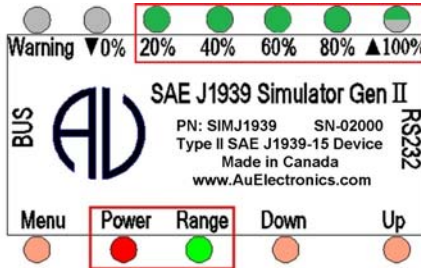

Figure 3-7 Power, Range, 20%, 40%, 60%, 80% are constant on, “▲100%” LED blinks, indicating data reaches 100%
- When control step value equals to 100%, 20%, 40%, 60%, and 80% LED will be constant on. ▲100% LED blinks, as shown in Figure 3-7.